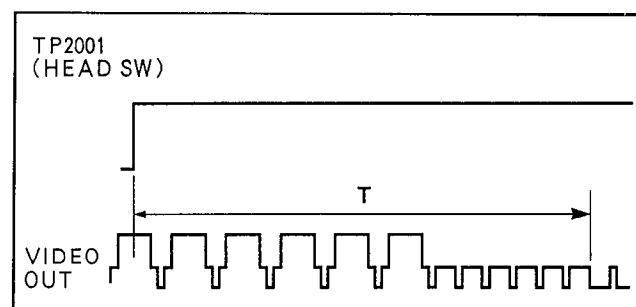

Fig. E1
2. Adjust VR2001 as shown in Fig. E1.